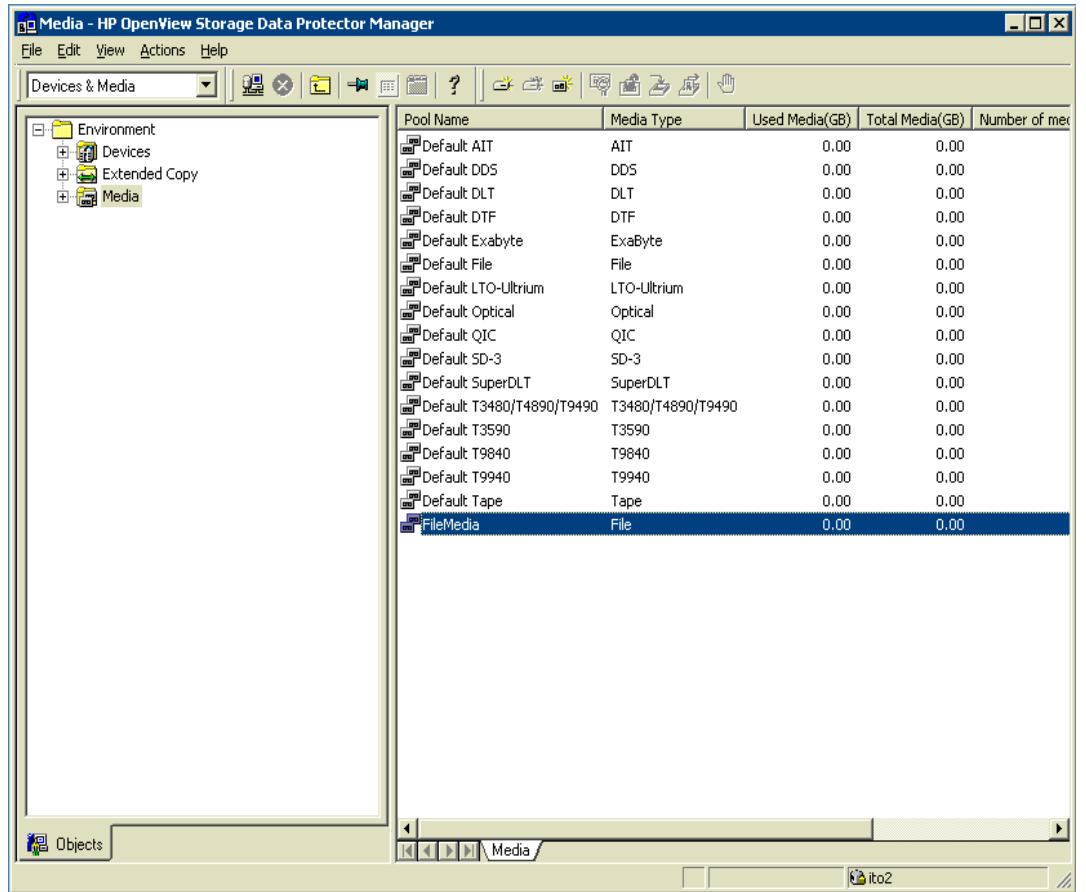

figure 5. FileMedia is the new media pool
11. Click **Finish**. The screen looks similar to figure 5. Notice the new media pool called **FileMedia**.